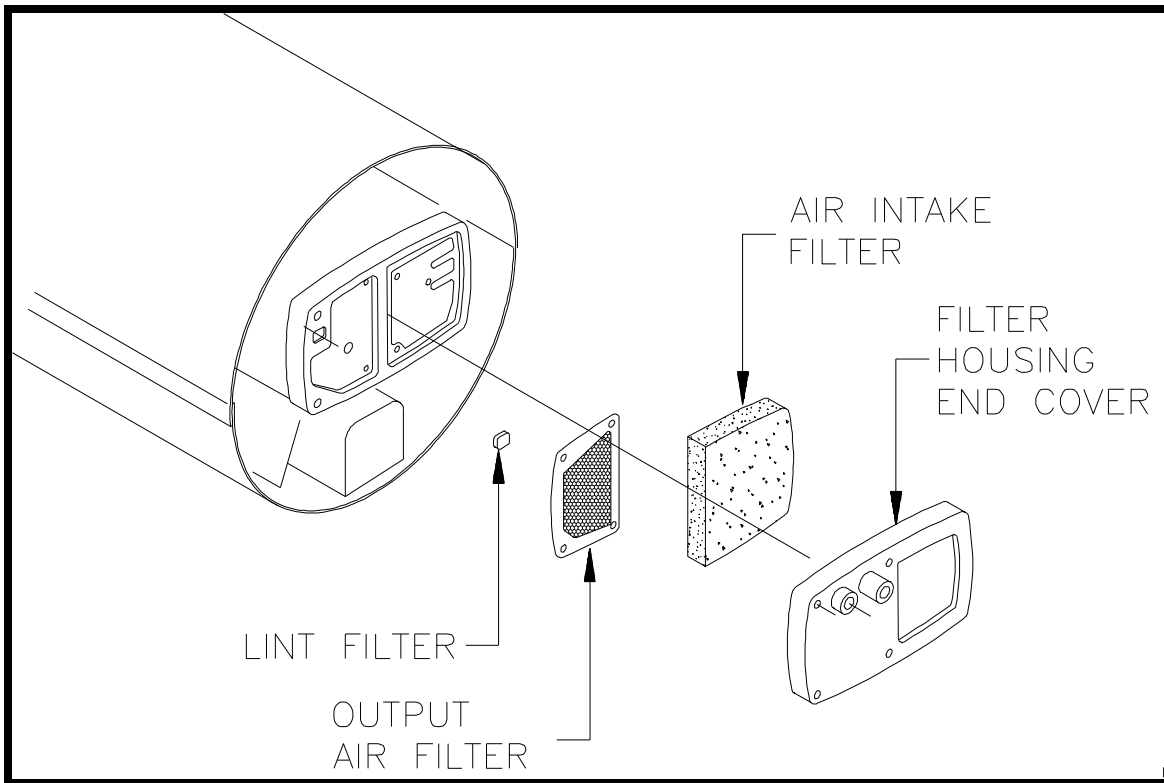

Figure 3 Air Filters
1. Check and clean the intake air filter often. The filter needs cleaning more often if the heater is operated in dusty conditions. See Figure 3, page 11.
2. To clean the intake air filter, simply pull it out through the opening of the filter housing end cover (see fig. 3), Wash with mild detergent and hot or cold water, dry thoroughly, and replace in the housing.
4. To reach the output air filter, remove the four screws which attach the filter housing end cover. Lift the output air filter out. See figure 3.